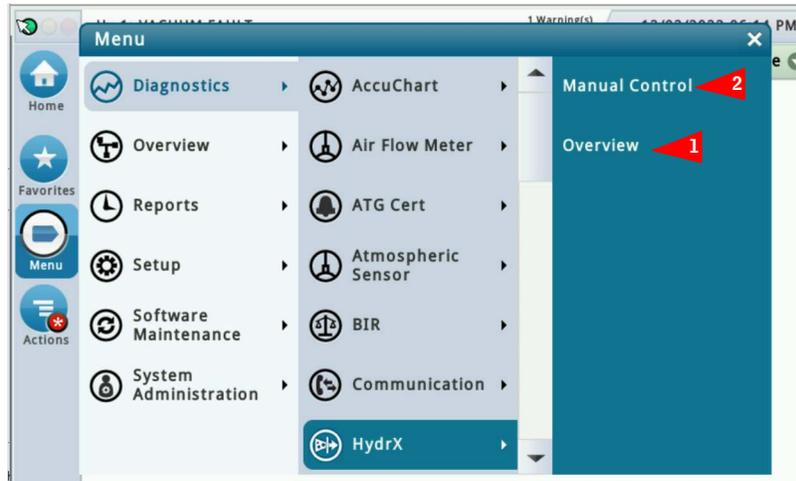
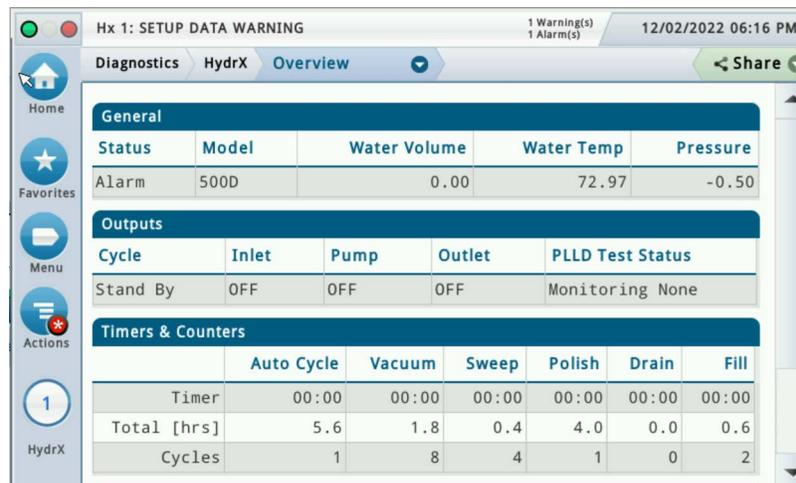

Figure 18. Accessing HydrX Diagnostic Screens
Figure 19. Example HydrX Diagnostics Overview Screen - Page 1
1. Touch **Menu>Diagnostics>HydrX** to open the HydrX Diagnostic Screen, then touch **Overview** (Item 1, Figure 18) to open the HydrX Diagnostics Overview screen (Figure 19).